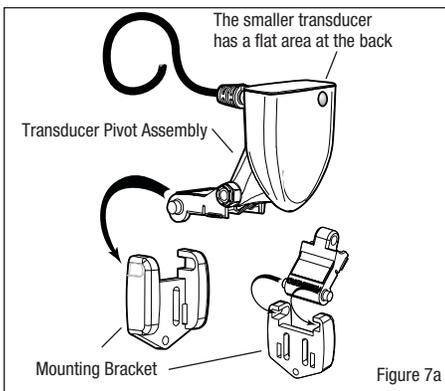

Figure 7a
- Insert the pivot/transducer assembly into the mounting bracket, as shown. Do not snap the assembly closed. (See Figures 7a and 7b.)